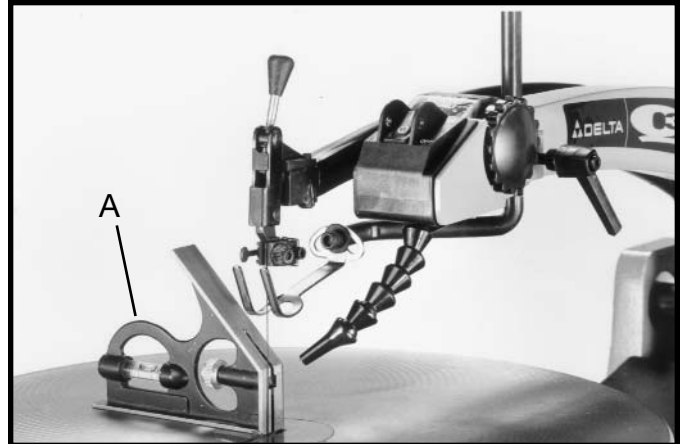

Fig. 29
2. Using a square (A) Fig. 29, check to see if the table is 90 degrees to the saw blade, as shown.